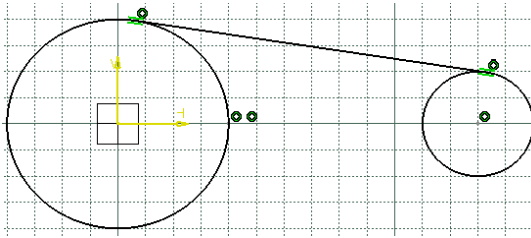

Figure 3-53 The sketch after drawing the first tangent line
9. Move the cursor on the second quadrant of the second circle and specify the end point of the line at this location. A tangent line is drawn, as shown in Figure 3-53.